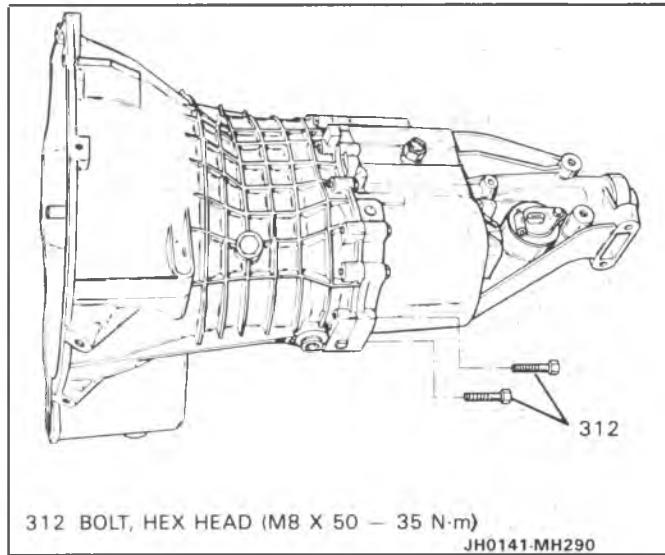

Figure 91 Bolts Install
- Switch (313) to 9 N·m (7 Lb. Ft.).
- 47. Bolts (312) (Figure 91).